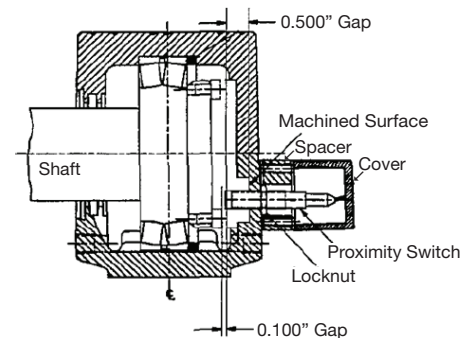

Figure 2 - USAF Smart Housing Proximity Switch Protruding 0.500" from the Machined Surface
1. After lowering the shaft and bearing assembly into the lower half of the housing, place the stabilizing ring on the closed end side of the housing. Screw the proximity switch into the housing until it protrudes 1/2" from the machined surface of the cast closed end of the housing. (Refer to Figure 2).